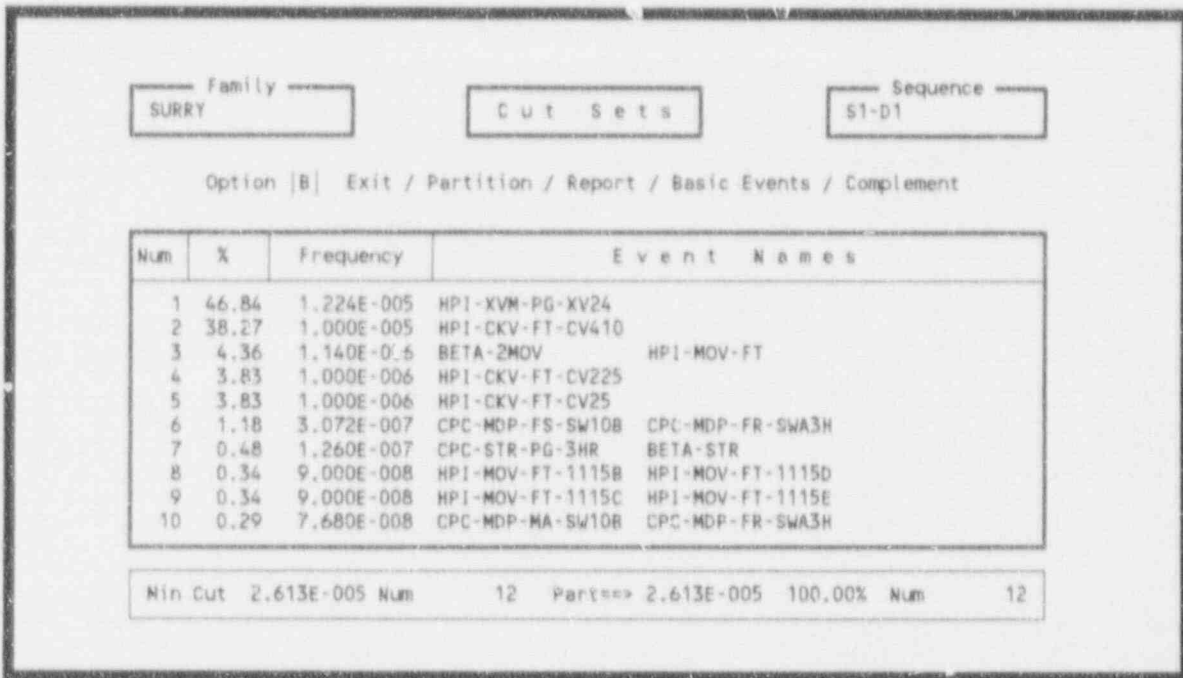

Figure 103. Event tree analysis cut set results display.
**4.4.1.3 Cutsets.** This option displays the sequence cut sets for the selected sequence (see Figure 103), their percent of contribution to the sequence, frequency, and the event names that make up the cut sets. The sequence minimum upper bound, the number of cut sets that make up the sequence, the current partition upper bound, the percentage that the partition contributes to the sequence, and the number of cut sets in the partition are displayed at the bottom of the screen. To invoke this option, type <C>, highlight the desired sequence, and press <Enter>. From Figure 103, the following options are available: Exit, Partition, Report, Basic Events, and Complement.
**Reset:** This option sets all family events to qualified. This, of course, removes all partitioning from the current sequence cut sets. To activate this option, type <R> in the option field and press <Enter>. (Assume the partition shown in Figure 105). Type <R> in the option field and press <Enter>. The original cut set list is the result, as shown in Figure 103.